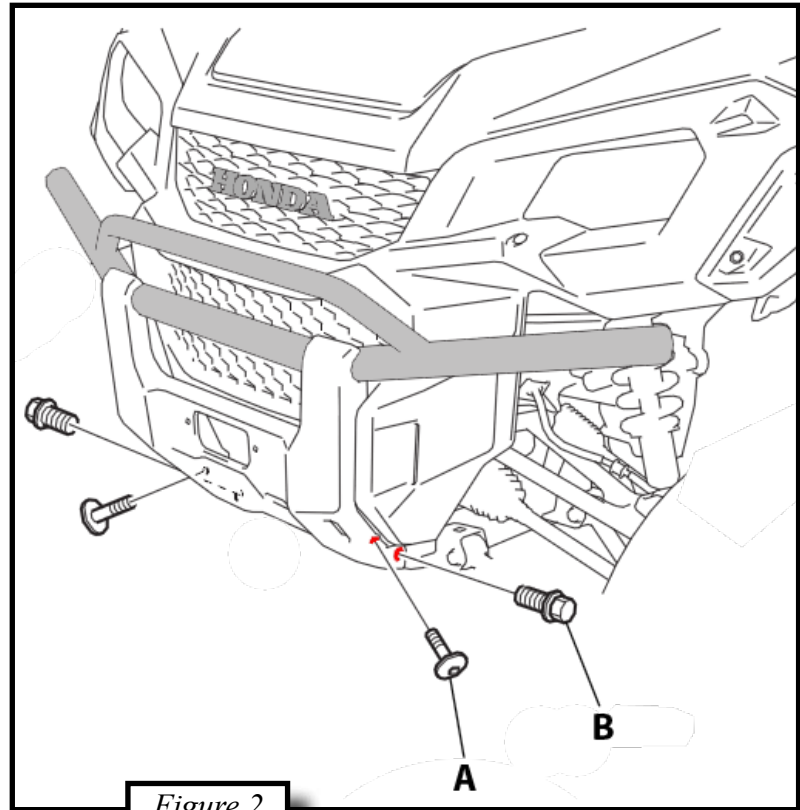
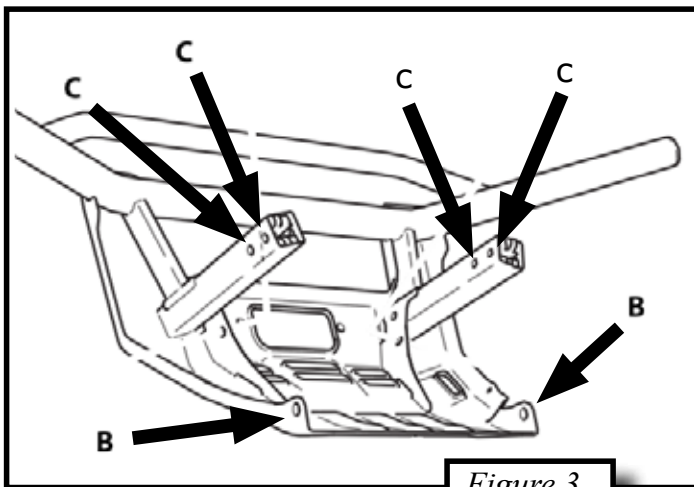

Figure 2
Figure 3
1. Remove the front bumper. Start by taking off the cap screws (A) holding the plastic to the bumper on each side. Remove the two bolts (B) on the bottom of the bumper as shown in Figures 2 & 3, and the four bolts (C) in the bumper tube as shown in Figure 3.